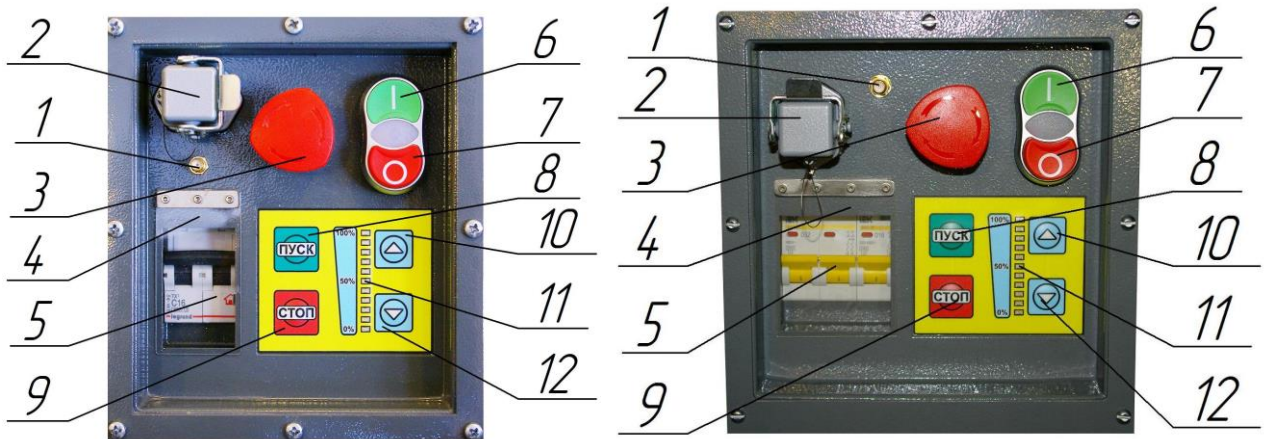
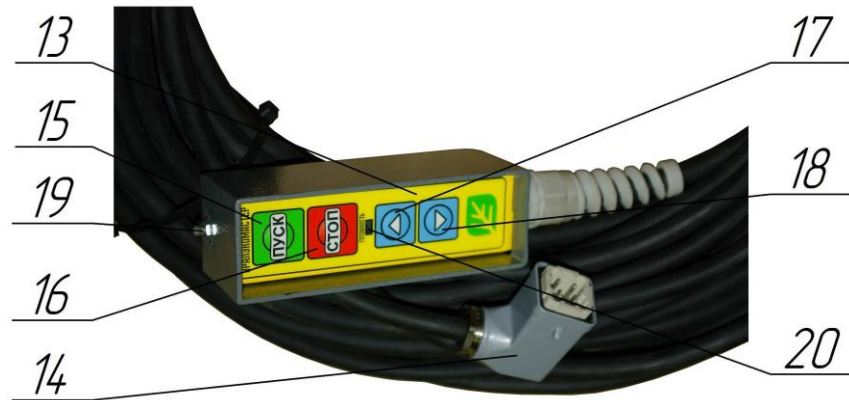
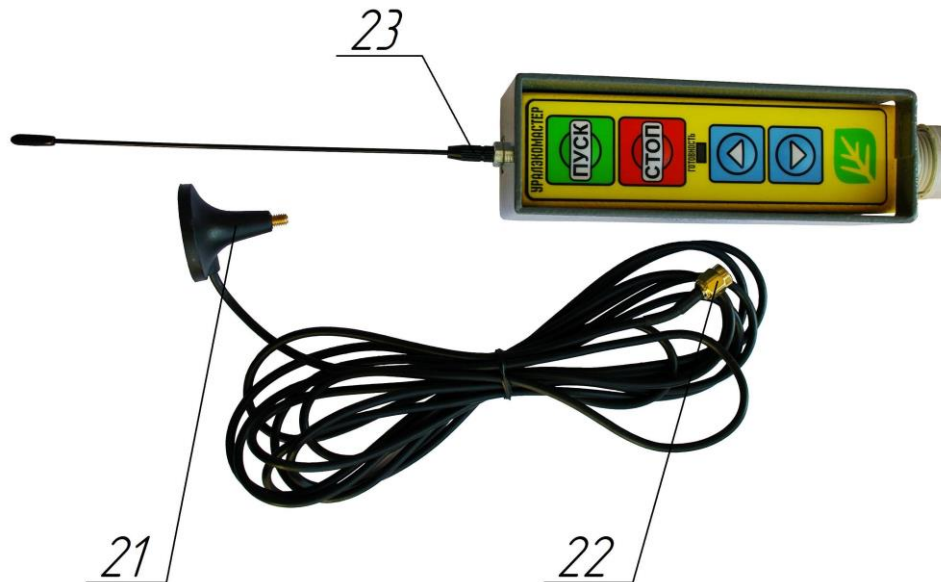

Figure 1 Remote controls (Left 700 Mini)
Figure 2
Figure 3
1.3.1 Remote controls are shown in Figure 1.
Figure 1 notes:
1.3.2. The wired remote control is shown in Figure 2
Figure 2 notes:
1.3.3. Option using the antenna shown in Fig. 3
Figure 3 notes:
1.3.5. Explanations for Figures 1, 2, 3 and 4 for the Machine control:
- A. Before switching the Machine on, make sure that Emergency STOP button (3) is not in the pressed position, and the circuit breakers (5) are in the turned-on state (when the Machine is turned off, it is not necessary to turn off the circuit breakers). Connect the power cord to a grounded network.
- a. The antenna (23) shown in Figure 3, not removed from the base (21), connect the antenna lead-in (22) to the antenna input (1) shown in Figure 1. In this case, the installation can be controlled by the radio remote control shown in Figure 4 (powered by two AA batteries of 1.5 volts (included in standard package), for replacement, unscrew the screws that secure the back cover (25)).
- b. The wired remote control (13) shown in Figure 2, should be connected to the control panel to the connector (2) shown in Figure 1 with a plug (14).
- c. If radio control is required, but the radio signals do not pass to the antenna connected to the antenna lead in (1) of the control panel, then the antenna (23) should be connected to the antenna lead in (19) of the wired remote control (13) shown in Figure 2. Place the wired remote control so that the radio signal from the remote control is perceived by its receiver.
- C. The Machine is **switched on** by pressing the Main **START button** (6), while the Machine goes into standby mode and the eleven-segment LED indicator (11) shows the power supply voltage level with a blinking LED in increments of 5 volts, 0% - 184 volts and lower, 100% - 230 volts and higher. Detailed chart is shown on the sticker next to the control panel. The indicator LED (11) shows the setting of the blower power of the previous start-up of the Machine with a LED. This setting is changed by pressing the Increase air (10) and Decrease air Buttons (12) in 10% increments in all operating modes of the Machine and from all control panels.
- D. By briefly pressing the **START button (8)**, the **air blower (-s)** turn on and all the LED below the glowing LED activate, showing the current setting of the blower power. **Subsequent pressing the START button will turn on and off the drive motor**, which is loosening and feeding insulation material into the blower zone. **START Button long push** (up to one and a half seconds), the **air blower (-s) and the drive motor are simultaneously turned on**. To eliminate false alarms, the time of long-term pressing of the START button on the radio remote control is selected independently. The **STOP button (9)** turns off the **air blower (-s) and the drive motor**, the Machine goes into standby mode. **All buttons with the same name on all remotes perform the same functions.**
- E. In the two-blower version of the Machine, when it is turned on, the control unit turns on the number of air blowers that were selected during the previous start-up of the Machine and buzzing twice when the control of two blowers is on and once when activated only one accordingly. **The forced mode for turning on one or two blowers** can be activated by **holding the Decrease air Button (12) or Increase air Button (10)**, respectively, exclusively on the control panel in Fig. 1 at the moment the Machine is turned on **simultaneously with pressing the Main START button (6)**, while the buzzer signals one or two times respectively. When releasing the Air supply button (Decrease or Increase), the buzzer control unit once again signals the
- At the end of work, with the drive turned off, it is necessary to clean the hose by blowing, be sure to put the Machine into standby mode by pressing the STOP button (9) shown in fig. 3 or other STOP buttons on the remote control panels, press the Main STOP button (7) shown in fig. 3 to turn off the unit, disconnect the hose from the Machine, close the lid-table, disconnect the Machine from the network, disconnect the wired remote control, receiving antenna.
- It is undesirable to turn on the main drive without air supply and with a large supply of material (pointer (13) in fig. 2 at more than 30% position of the scale). It might cause material pressing between the feeder blades and it's seizure. In this case, it is necessary to completely close the material supply gate (pointer (13) in fig. 2 at 10% position of the scale) and clean the feeder at full air supply volume. It may be necessary to unload the material from the hopper and from the accessible areas of the feeder, at the same time disconnect the Machine from the power network and, observing safety measures, turn the activator shafts manually.